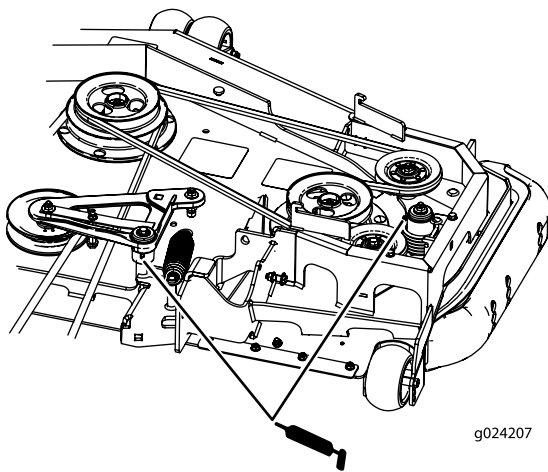

Figure 42
6. Grease the deck-belt idler arms (rear discharge machines only) as shown in Figure 42.